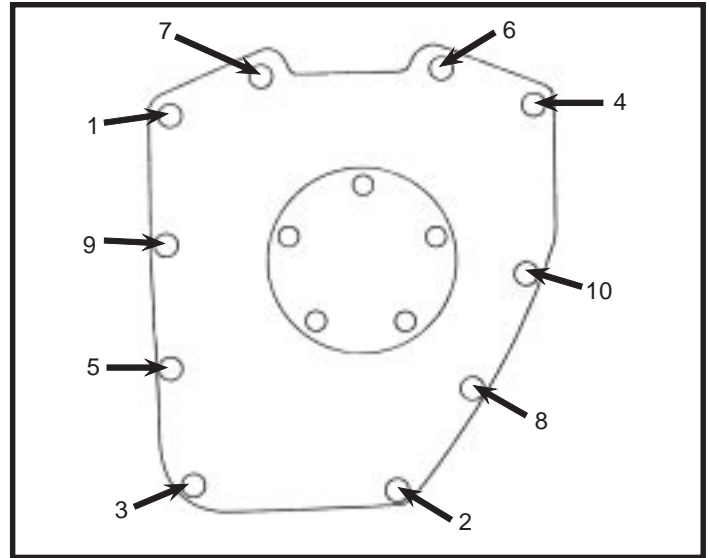

Figure 3
25. Install outer cover with new gasket and tighten bolts to 90-120 in-lbs. in sequence illustrated in **Figure 3**. Replace any remaining parts removed to facilitate cam installation. Start engine and check for leaks.